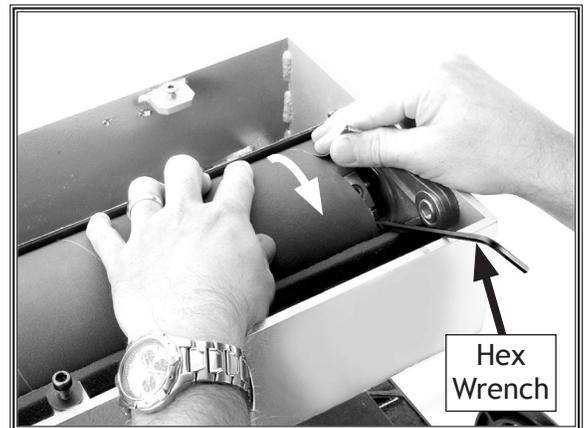

Figure 22. Wrapping sandpaper over tension wheel.
11. Firmly hold down sandpaper with both hands, rotate drum toward you, then wrap end of sandpaper over top of the drum (see **Figure 22**).